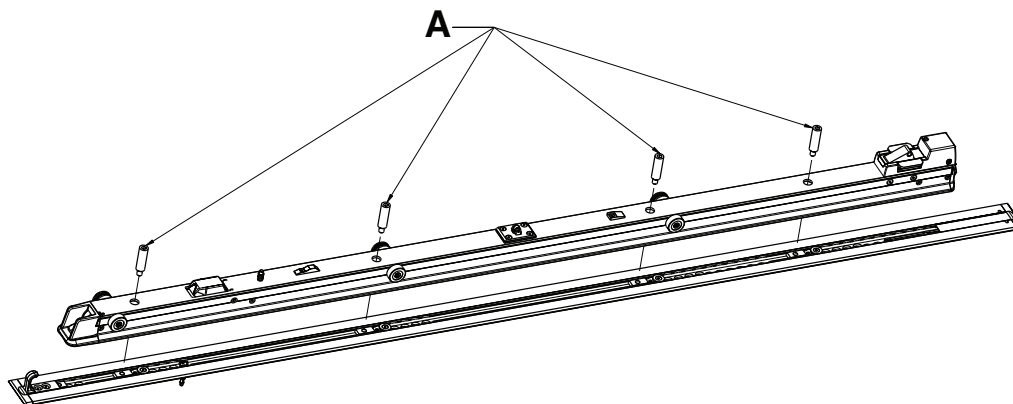

Figure 39: Remove the anchor mounting posts
3. Using a 3/8" hex driver, remove the four anchor mounting posts (A) that secure the anchor to the floor plate (Figure 39 on page 71).